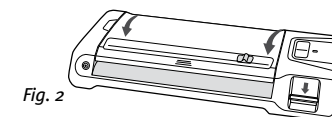

Fig. 2
2. Close and Latch Lid.(Fig.2)